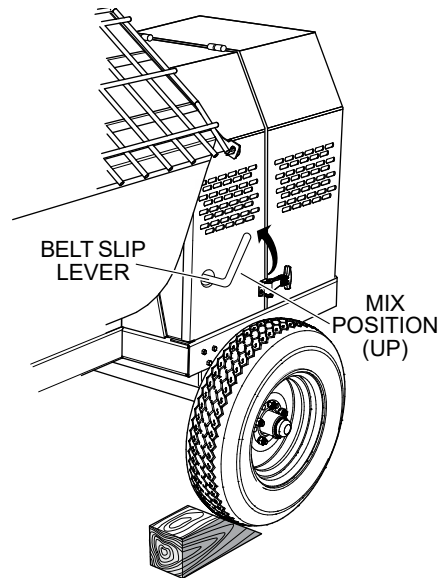

Figure 29. Belt Slip Lever (MIX Position)
3. Place the belt slip lever in the **MIX** (up) position. This will tilt the engine, placing tension on the V-belts and enabling the shaft to rotate. See Figure 29.